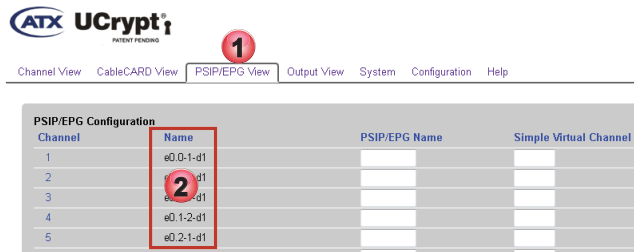

Figure 8-2: List from Channel View Page
1. Click the **PSIP/EPG View** tab if isn't already selected, Figure 8-2.